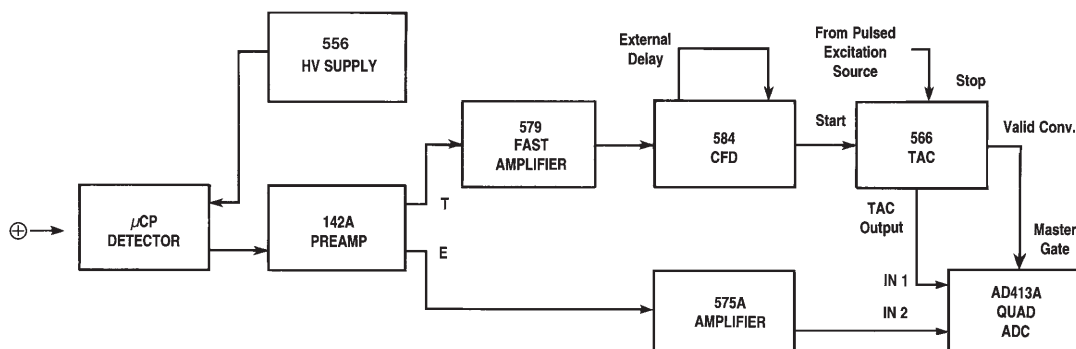

Fig. 13. Simultaneous Time and Pulse-Height Measurement With a Microchannel Plate Detector.
When a detector offers only a single output, but both time and pulse-height spectrometry are required, the system in Fig. 13 provides a practical solution. The Model 142A Preamplifier accepts the single detector output and delivers separate preamplifier outputs for timing (T) and pulse-height or energy (E) measurements. This scheme preserves the low noise required for pulse-height spectrometry, while offering a fast rise time for time spectrometry. The method is useful for microchannel plate detectors, microchannel plate PMTs, Si charged-particle detectors, and Ge detectors. For best performance, the length of the connection between the detector and the preamplifier should be as short as possible.